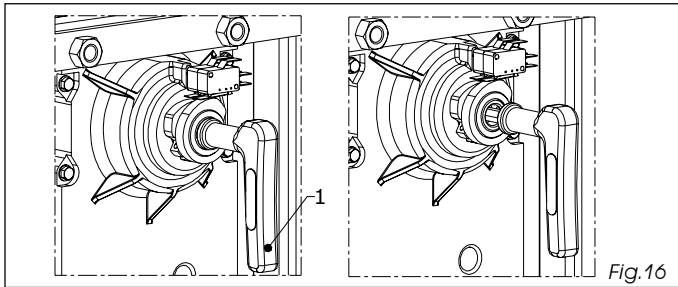

Fig.16
- fit the special key, located inside the upright, in the release hole (fig. 16, ref.1) and turn it anti-clockwise for a few turns until you reach the mechanical stop limit.